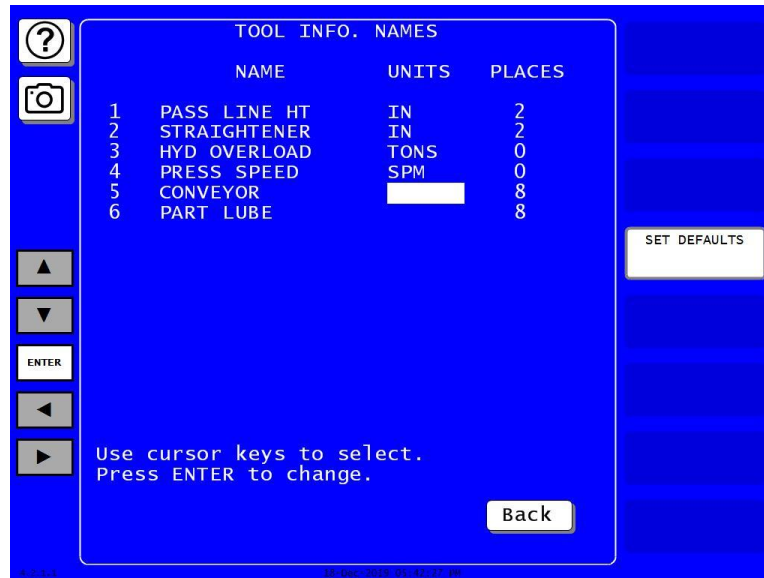

Figure 4-20. Tool Information Setup Screen with Sample Entries
10. Repeat steps 2-9 to set up other Tool Information items. A Tool Information Setup screen with sample entries filled in is shown in Figure 4-20.